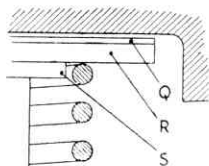

FIG. 131. ARRANGEMENT OF PACKING WASHERS OF BRIDGE PIECE
Note position of washers (Q) and (R), Fig. 131, as the thin ones are used for adjustment. The washer (S) acts as a spigot for return spring.
Adjusting washers (Q), Fig. 131, must be removed and replaced until correct air gaps are obtained. Washers are available 0.004, 0.008 and 0.0012 in. (0.1016, 0.2032 and 0.3048 mm.).